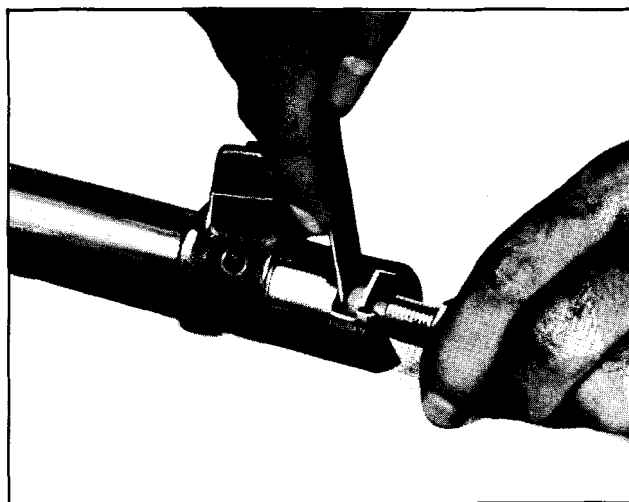

Fig. 9-77 Checking Lash Adjuster End Clearance
6. Position the lash adjuster screw (with shim) in the slotted end of the pitman shaft. Check the end clearance, which should not be greater than .002" (Fig. 9-77). If clearance is greater than .002", a steering gear lash adjuster shim unit is available. It contains four shims -- .063", .065", .067" and .069" thick.